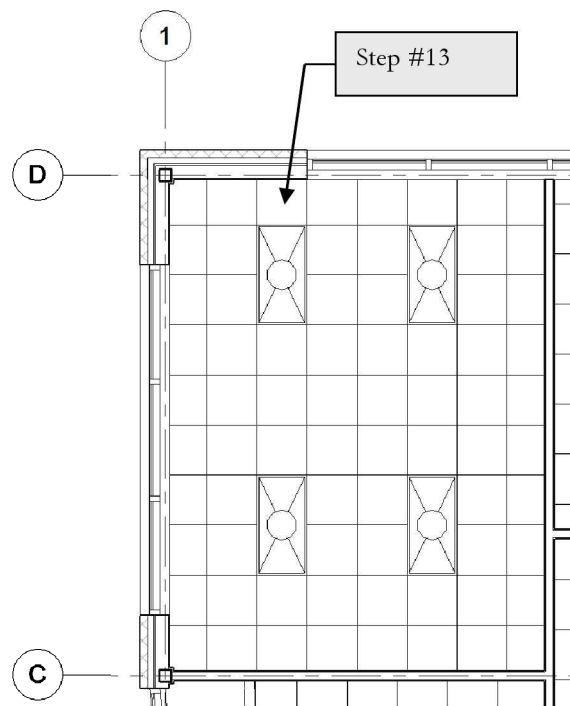

FIGURE 14-4.2 Light fixtures placed on Level 1
13. Place the fixture as shown in Figure 14-4.2.
14. Place the other three fixtures shown in Figure 14-4.2.